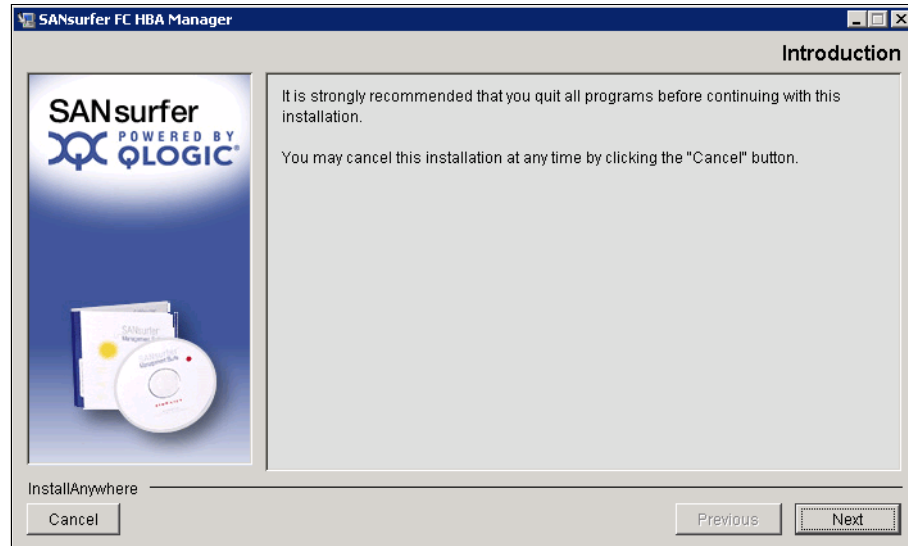

Figure 7-63 SANsurfer FC HBA Manager panel
2. In the Introduction panel (Figure 7-63), click **Next**.